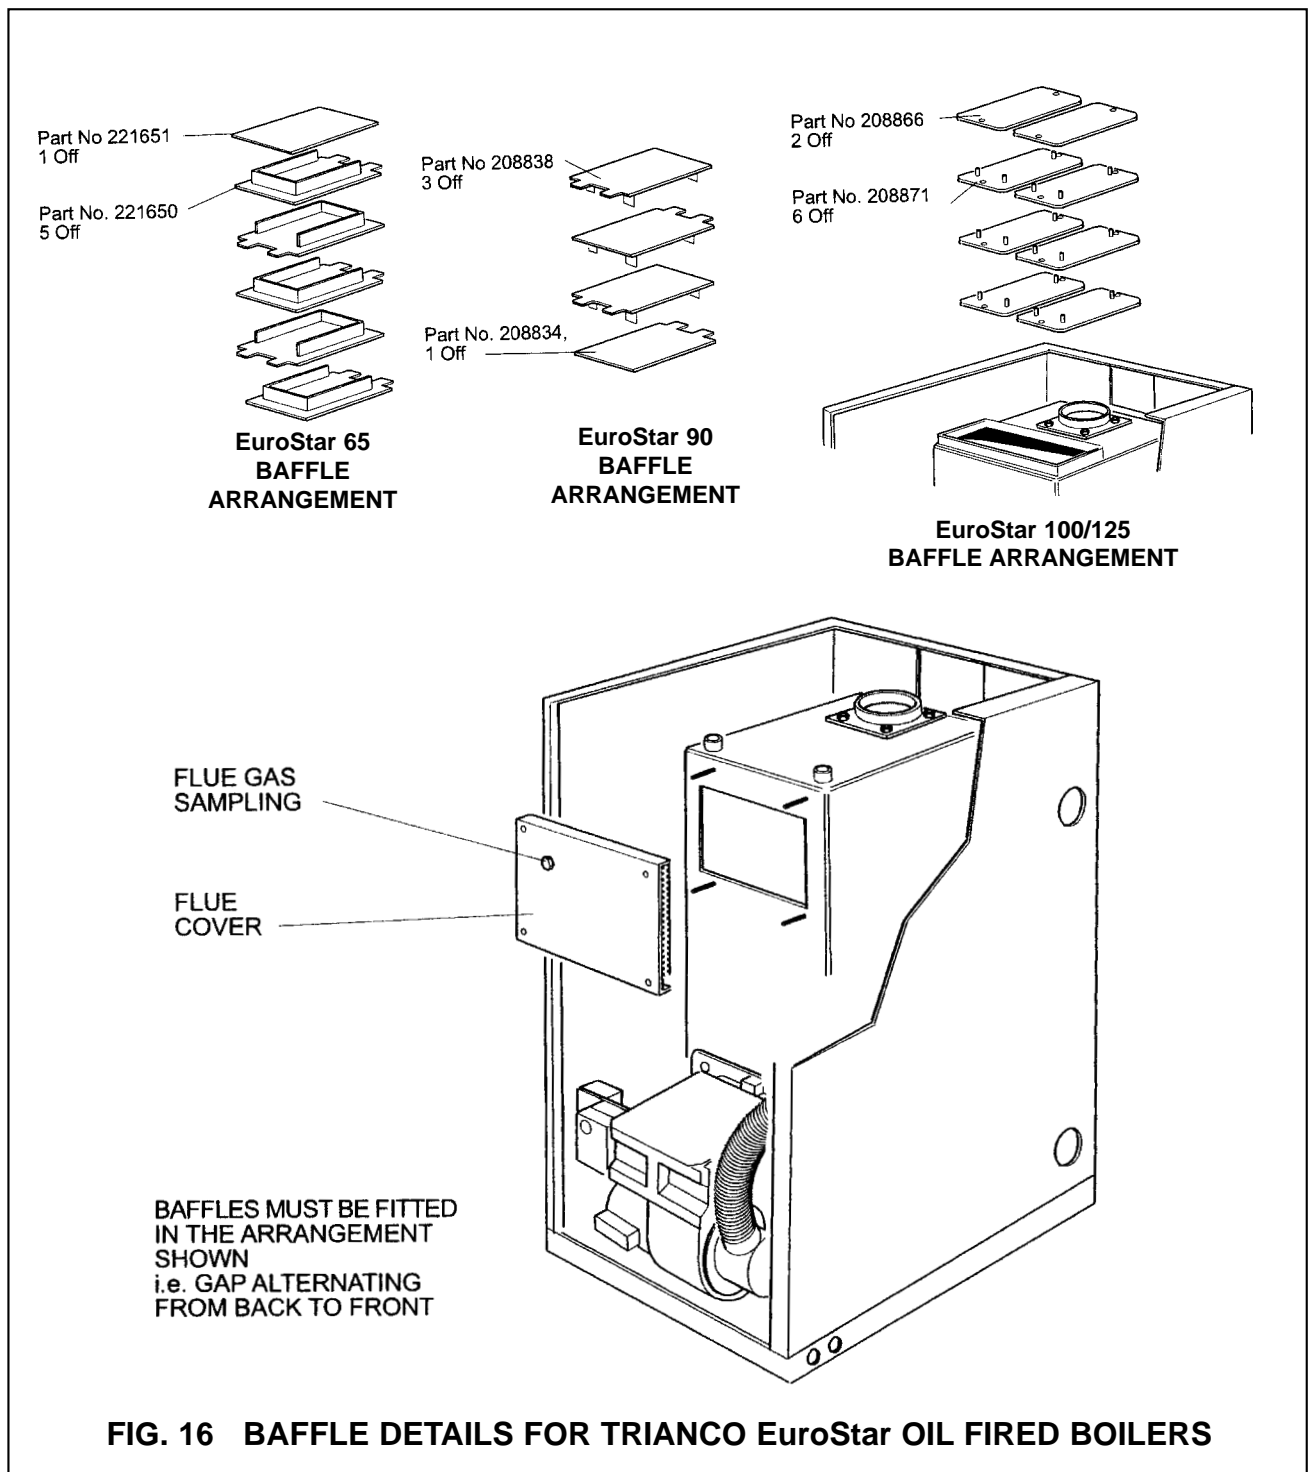

FIG. 16 BAFFLE DETAILS FOR TRIANCO EuroStar OIL FIRED BOILERS
3. Remove flue-cover and check that flue-baffles are correctly positioned (See Fig 16 for baffle arrangement).
1. Remove flue-cover and lift out flue-baffles (See Fig. 16).
4. Replace flue-baffles in the correct arrangement (See Fig. 16 for order of assembly). Refit the flue-cover and fully tighten wing-nuts to make a gas tight seal.